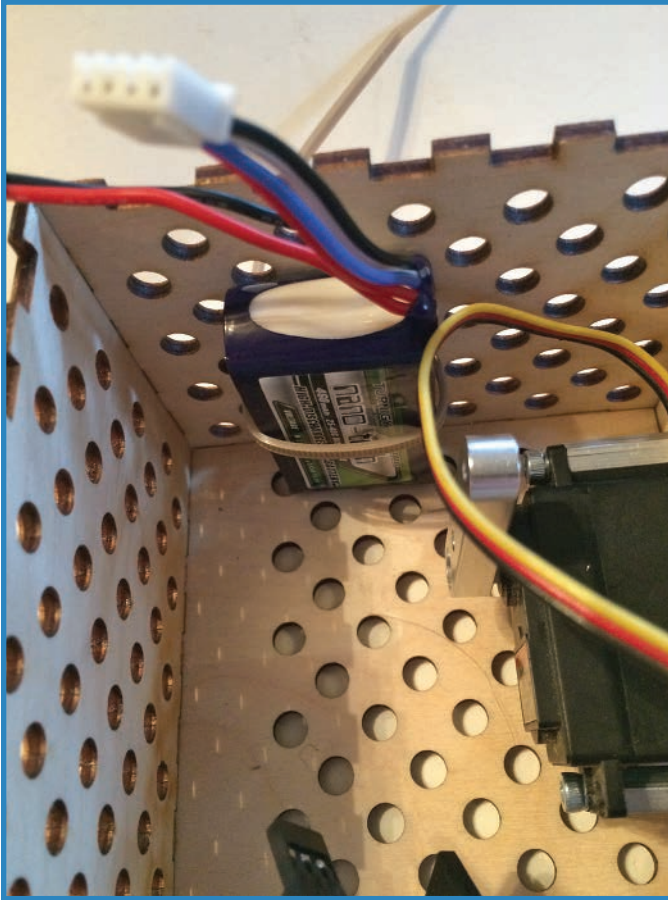

FIGURE 7.14 Next, secure the battery with zip ties.
9. Use zip ties to attach your LiPo battery to the gondola, as you see in Figure 7.14.